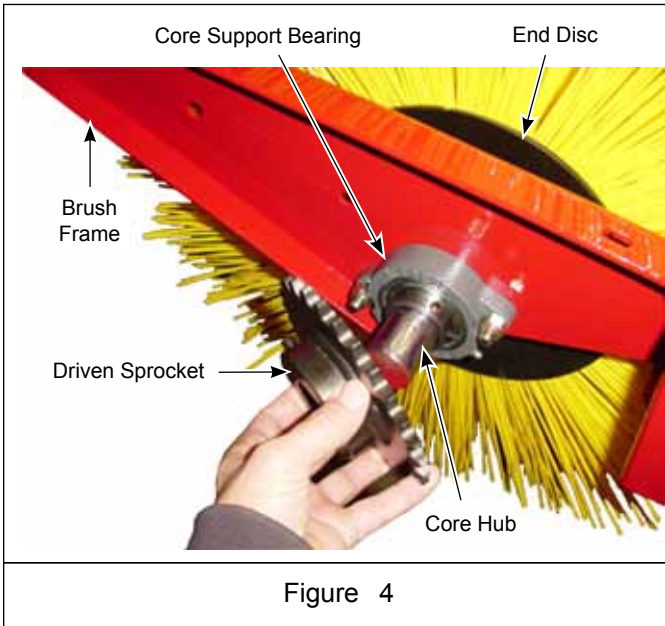

Figure 4
Loosen set screws in sprocket on core hub and pull sprocket off hub shaft with chain. See Figure 4.
5. Remove (2) 7/16"-14 lock nuts attaching each brush core support bearing to brush frame. Push the (2) 7/16-14 x 1-1/2" hex head capscrews inward on both bearings to detach core. See Figure 4.
3. At each end of broom, install (2) 7/16-14 x 1-1/2" hex head capscrews from inside brush frame and out through support bearing. Install (2) 7/16"-14 lock nuts to secure each support bearing to brush frame. See Figure 4.
Install chain over drive motor sprocket. Place driven sprocket in chain and install sprocket with chain on core hub shaft. Tighten set screws to secure sprocket on shaft. See Figure 4.